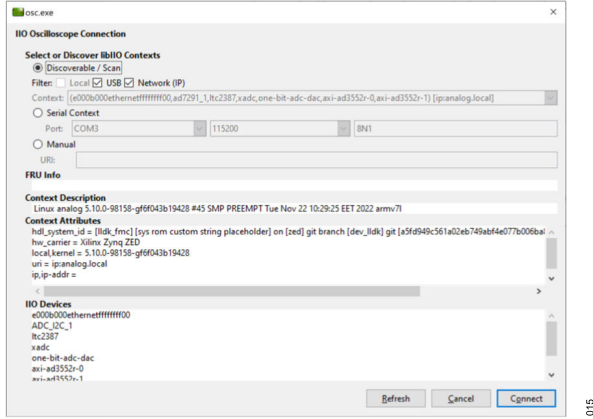

Figure 15. IIO Oscilloscope Connection Panel
3. Launch IIO Oscilloscope and connect to the Zedboard, as shown in Figure 15.